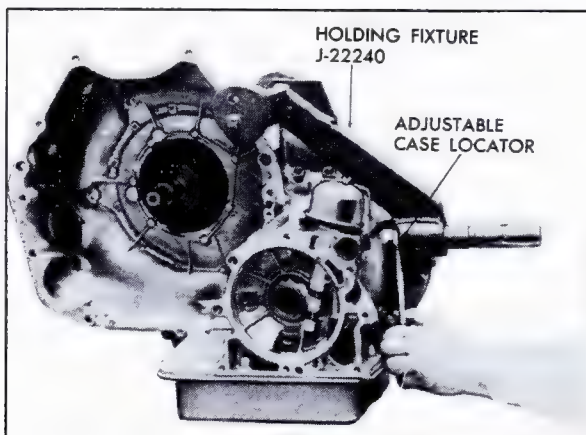

Fig. 7-151 Attaching Holding Fixture to Transmission
2. Position Transmission Holding Fixture, J-22240, to transmission, Fig. 7-151.